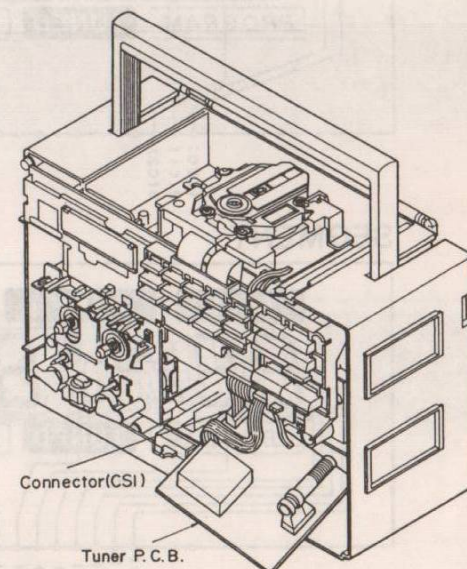

Fig. 5
10. Take out the tuner P.C.B. and insert the flat cable into the connector (CS1). (See Fig. 5)